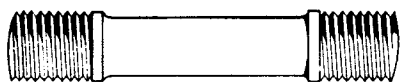

Fig. 2. Stud
4. **Studs.** A stud is a metal rod with a male thread at each end (Fig. 2). One end of the stud is screwed into a threaded hole in one of the parts to be joined. The other part is fitted over the stud and tightened in position by fitting a washer and nut to the end of the stud.